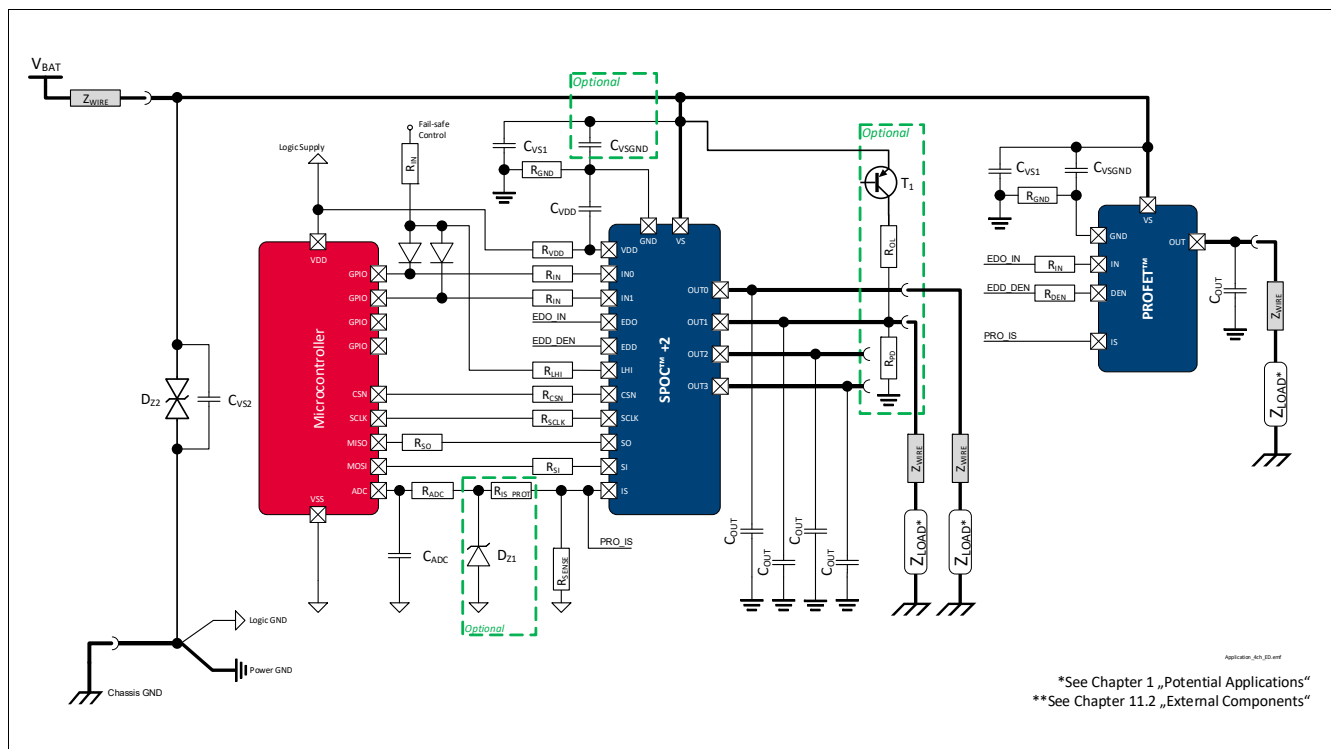

Figure 46 Application Diagram
1.10 , 2021-03-23	General: Datasheet quality improved General: updated (ReverSave™ → ReverseON) General: updated (channel description) Icon “PRO-SIL™ ISO 26262-ready” added to front page Chapter 1 updated (Package description) Chapter 1 updated (Potential Applications updated and Product Validation added) Harmonization of Application Diagram (Figure 1, Figure 46) P_4.4.0.15, P_4.4.0.16 updated (Typ. value and Max. value) P_6.4.0.10 updated (Note or Test Condition) P_6.4.1.5 updated (Max. value updated and footnote added) P_6.5.31.2 added P_9.6.0.6 updated parameter name P_9.6.0.17 added P_9.6.2.11 footnote removed Figure 14 and Figure 16 updated Figure 28 and Figure 29 updated Figure 33 updated Figure 37 and Figure 38 updated Chapter 10.4 typical value for VDD harmonized Chapter 11 updated (figures and descriptions)